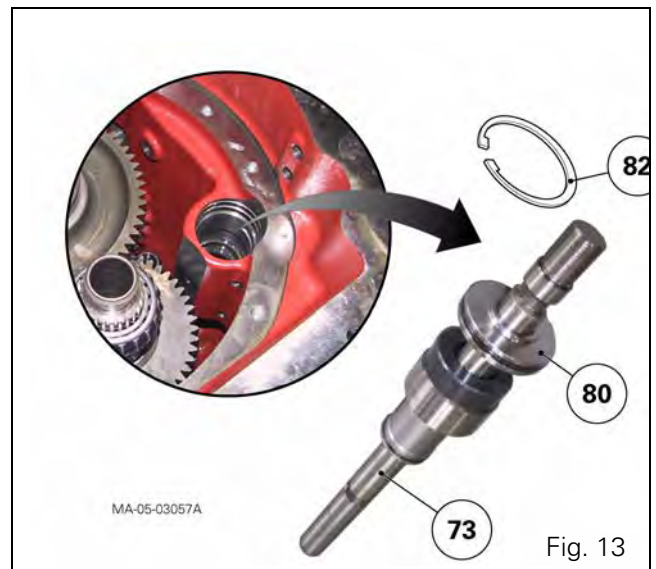

Fig. 13
17. Remove the circlip (82) (Fig. 13).
18. Using a plastic hammer, remove the selector rail (73) towards the front of the gearbox (Fig. 13).